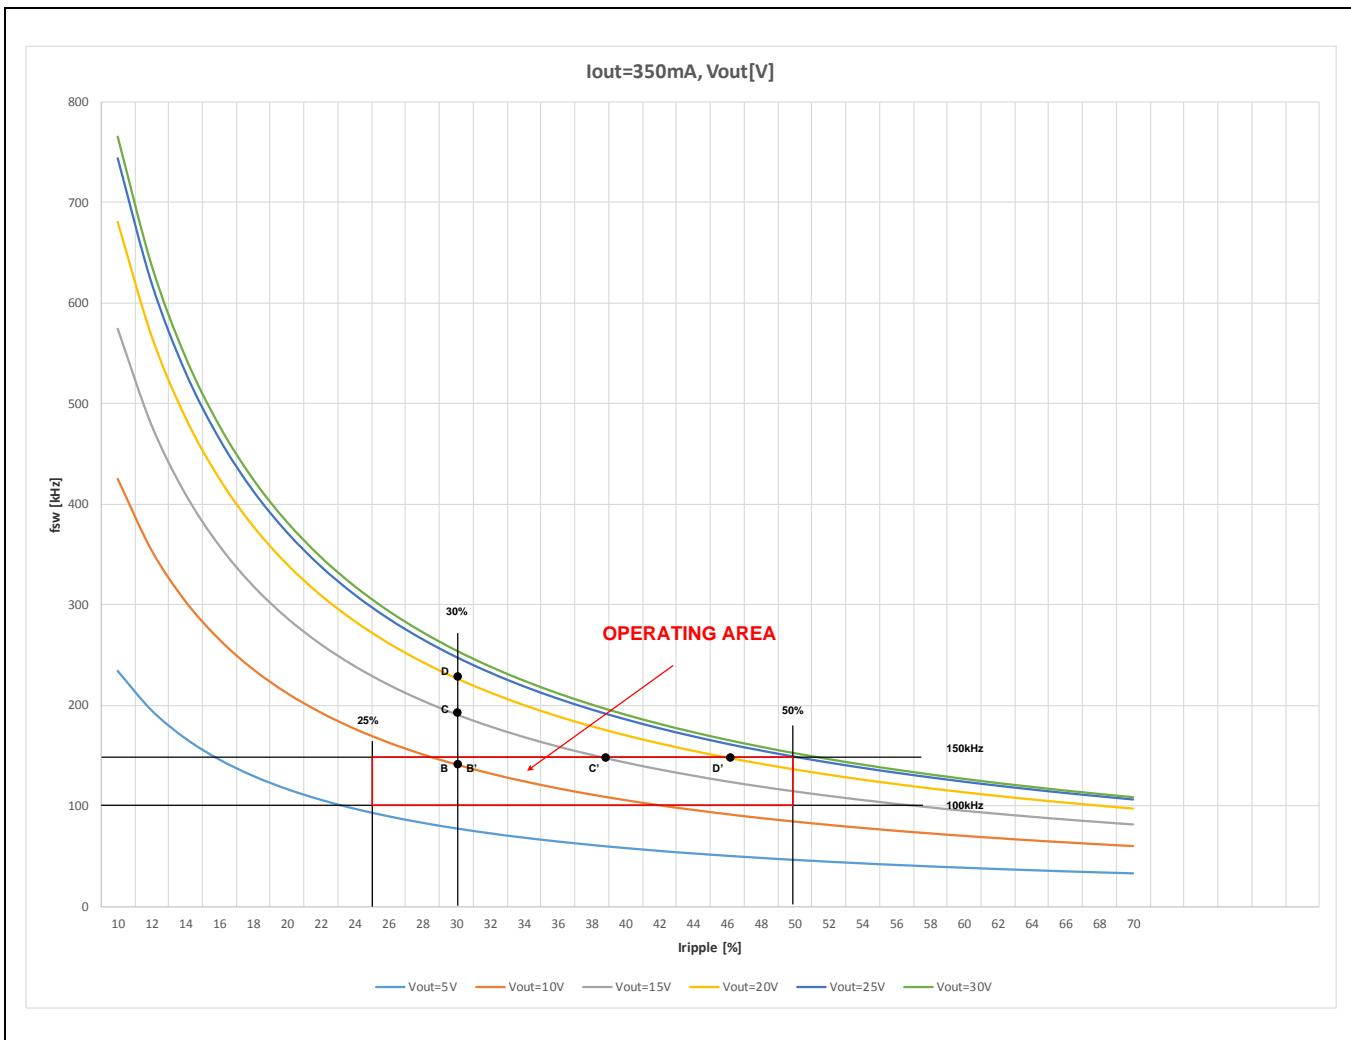

Figure 16. FRC Algorithm Example – Operating Point successfully put into Operating Area
- 1) If the achieved operating frequency is within allowed borders (defined by  $f_{sw\_min}$  and  $f_{sw\_max}$ ), and the starting value of the ripple is within allowed absolute ripple borders (defined by  $I_{ripple\_min}$  and  $I_{ripple\_max}$ ), no correction will be performed (e.g.  $V_{out} = 10$  V – orange curve, operating point B is in the operating area,  $B=B'$ , see Figure 16).
- 2) If the achieved operating frequency is above the maximum allowed switching frequency  $f_{sw\_max}$  (e.g.  $V_{out} = 15$  V – grey curve, point C;  $V_{out} = 20$  V – yellow curve, point D), the firmware will start to slowly increase the ripple in order to lower the operating frequency (the slope of this increasing ripple depends on the buck inductance  $L_{EXT}$ , see equation (12) on page 17). It will continue increasing the ripple until the frequency falls below the high threshold  $f_{sw\_max}$  (corrected points C' and D', see Figure 16).